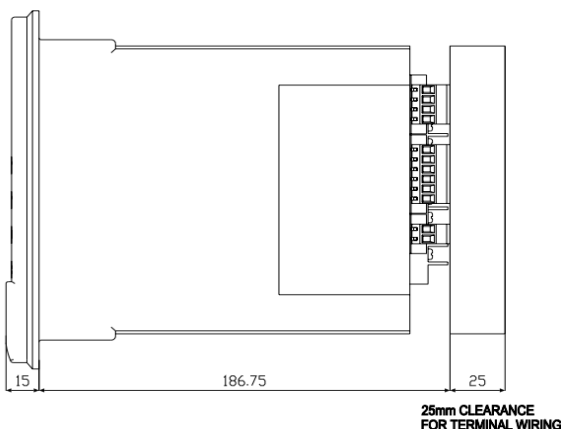

Figure 1-1 Clearance for Terminal Wiring
7. Maintain a minimum clearance from the relay as given in Figure 1-1 to ensure safety and accidental touch of terminals. In case of work area is restricted in a cubicle, then suitable protective terminals to be provided in the cubicle.